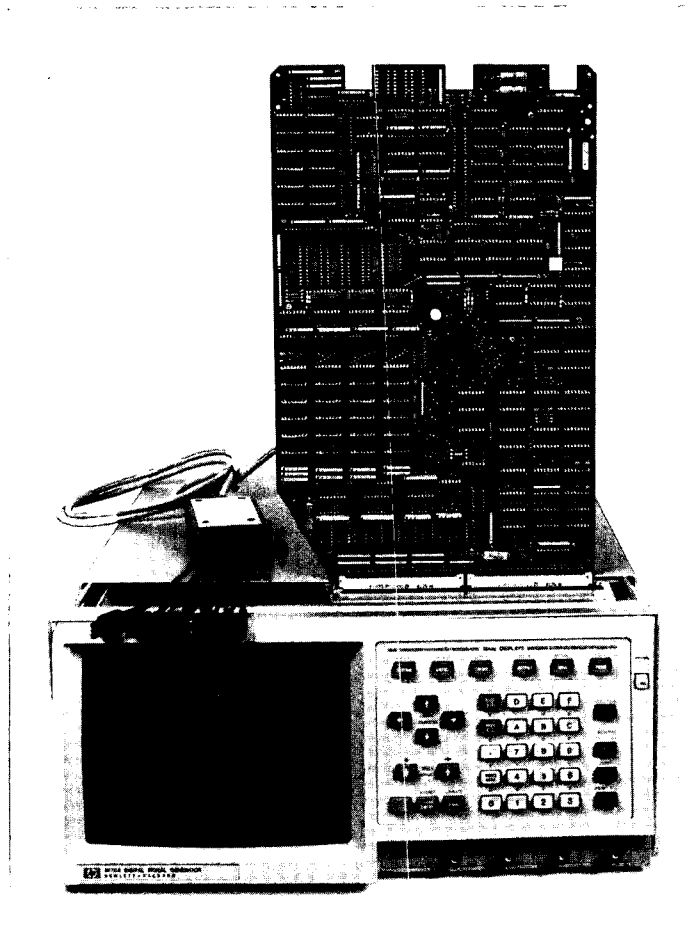

Figure 5-1. 8175A Service Position
For adjustments on the CPU Board, Clock Board, Data Board or Fine Timing Board use the service connectors as shown in Figure 5-1.
- Remove the Microprocessor Board from its normal position (disconnect the two ribbon cables first!) and plug it into the Service Connectors (Figure 5-1).